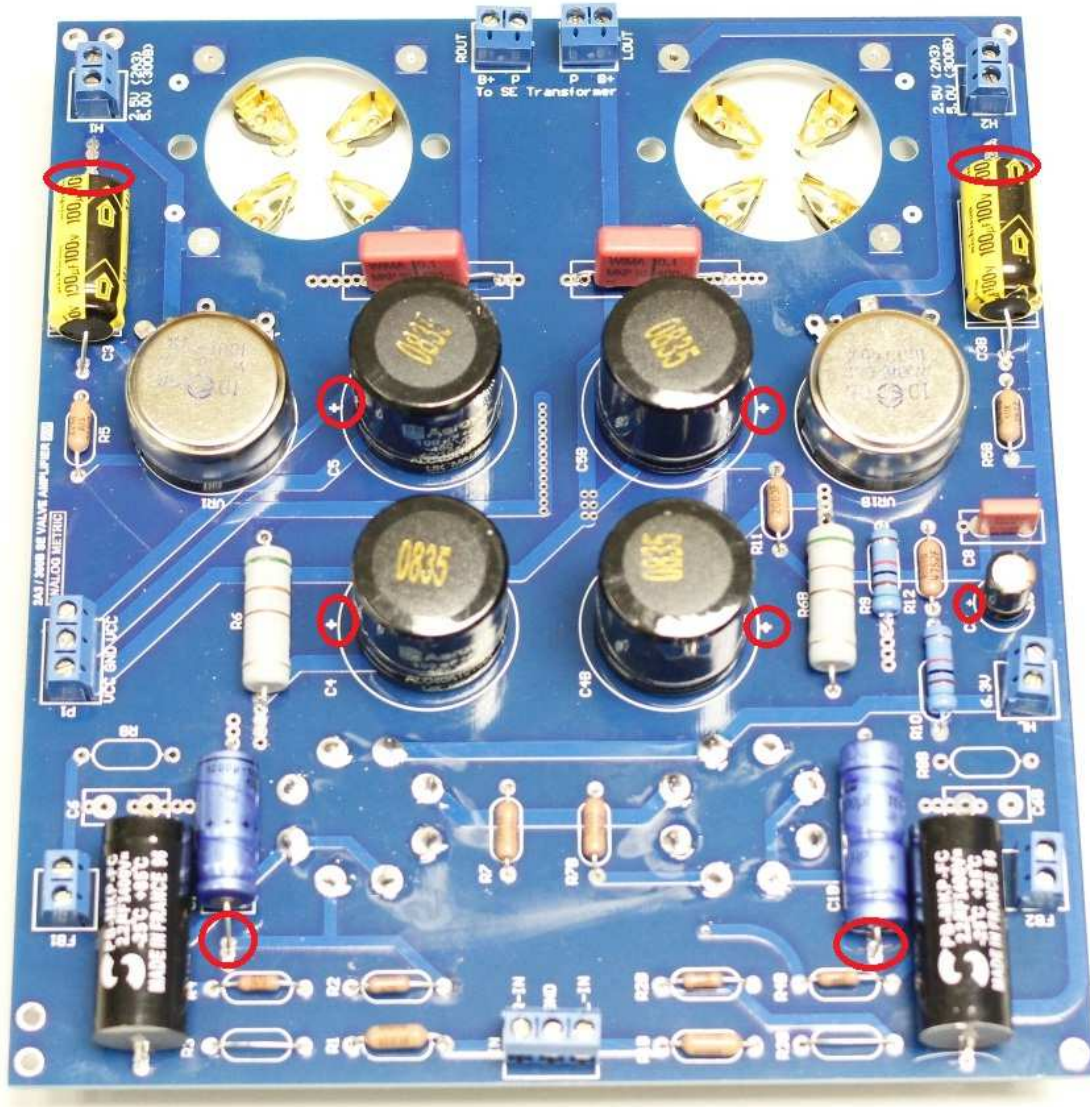

Figure 1: The positive terminals of the electrolytic capacitors are marked by red circles.
2. Notice to the direction of the electrolytic capacitors C1, C3-5, C7, and C8 (the positive terminals are marked by red circle as shown in Figure 1). There is no direction of the thin film capacitors. Double check the direction of the electrolytic capacitors, as it may cause hazardous.